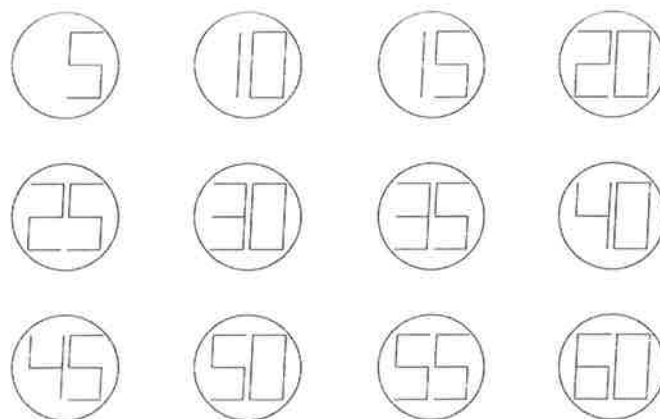

figure 21
- The display will sequence through the Warn Set Point Levels beginning with “5” and increasing in increments of 5 up to “60” and then back to “5” (figure 21),
- Finally, the Alarm Set Point option will be displayed as in figure 21 (cannot be lower than the Warn set point).